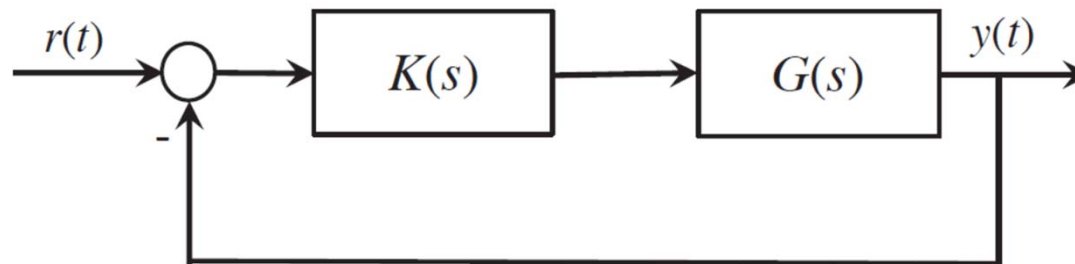
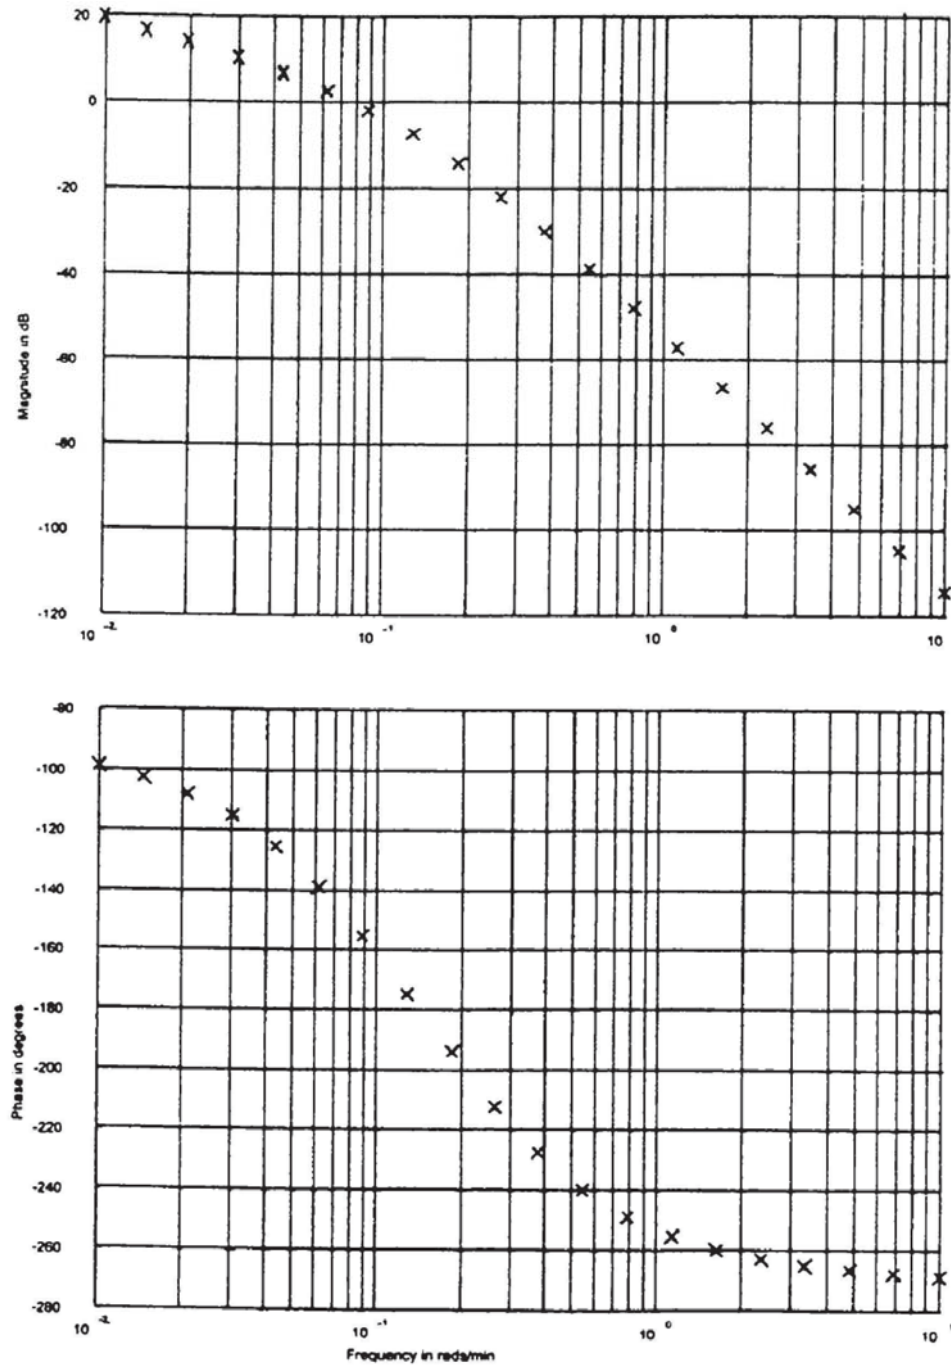

Figure 2: Closed loop system
Figure 4: Bode plot of plant
4. Consider the closed-loop system in Figure 2, some open-loop frequency response data of the plant is tabulated in Table 1 while Figure 4 shows the Bode plot of the plant.